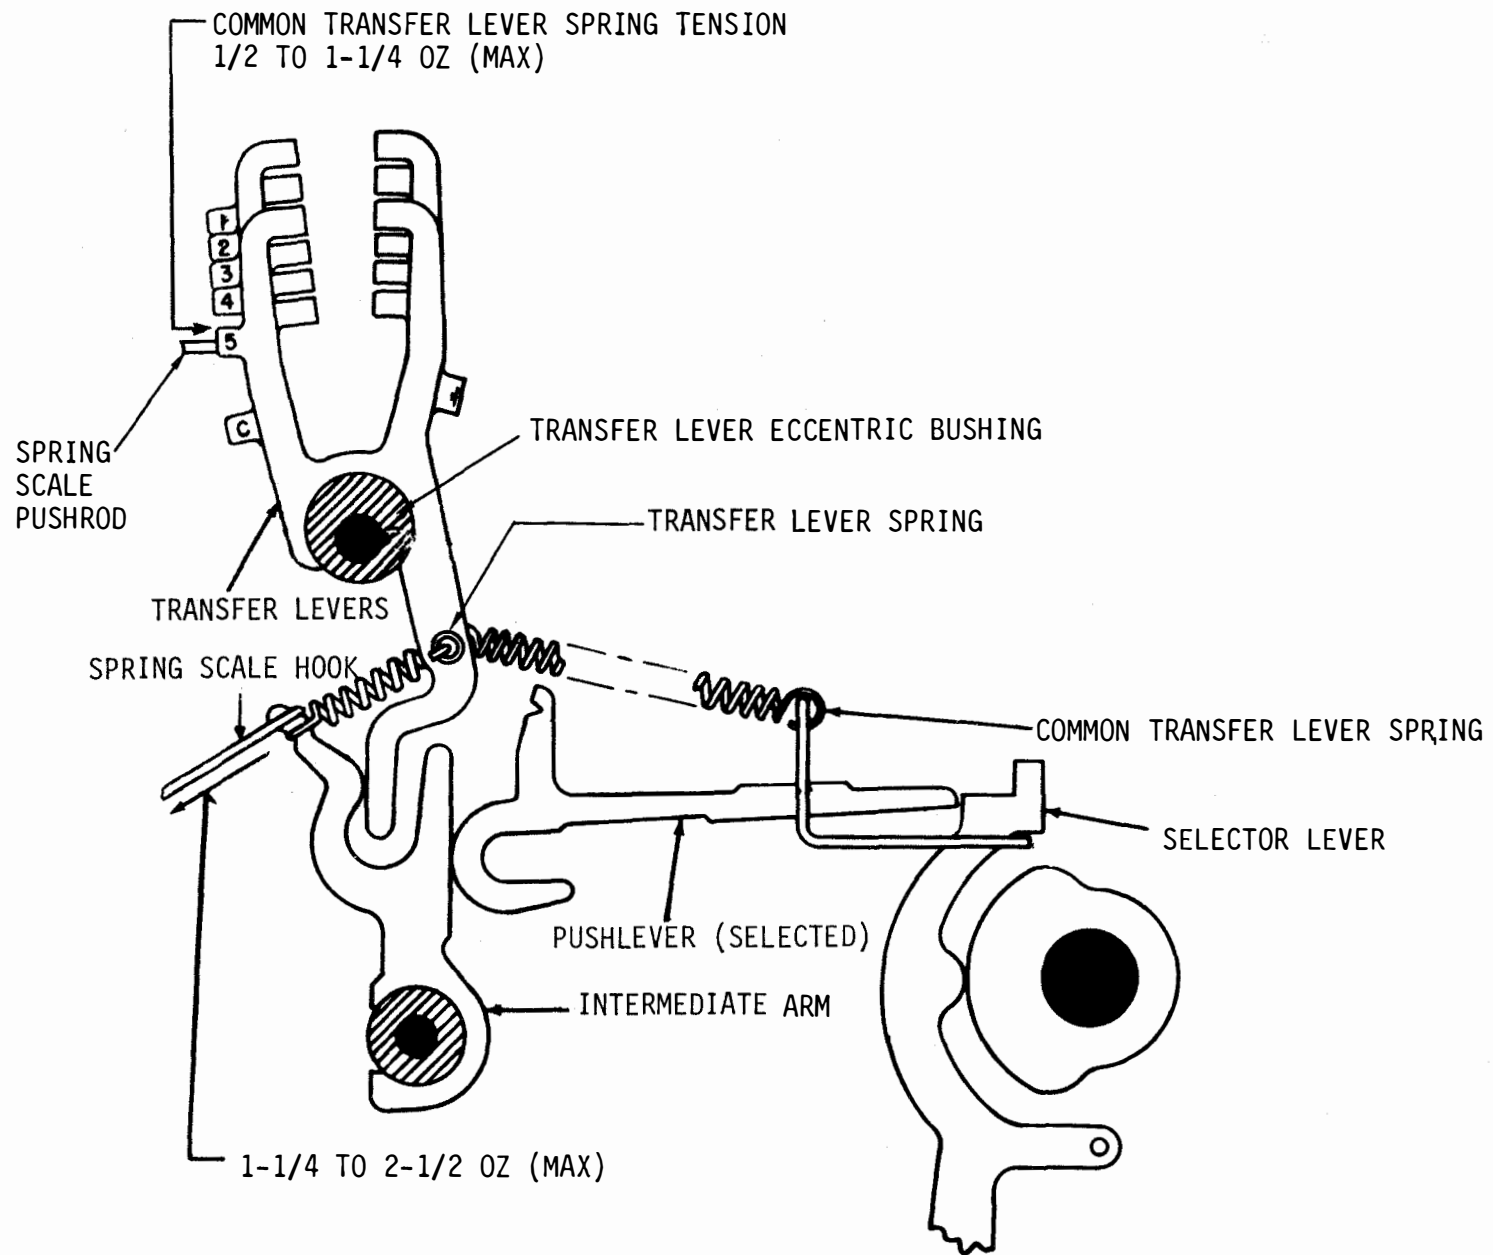

Figure 6-17. Common Transfer Lever Spring, and Transfer Lever Spring, Right Side View
(1) Common Transfer Lever Spring. Adjust as follows:
- (a) Refer to Figure 6-17.
(2) Transfer Lever Spring. Adjust as follows: